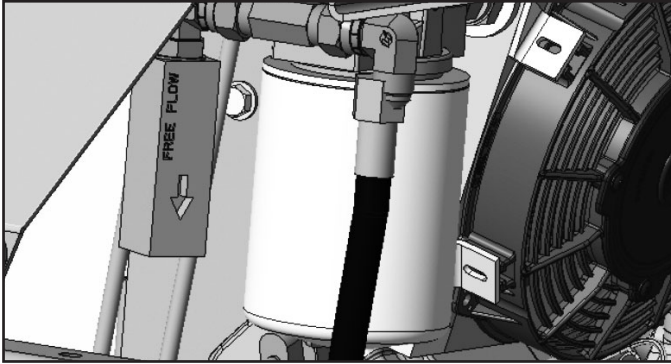

Figure 43: Hydraulic filter location
- 4.** Remove rear tires with a ¾” socket and loosen lower motor hose on each side as shown in **Figure 43** with a 7/8” wrench. Route hose to an appropriate catch pan.
NOTE: Filter must be replaced with same size and type (10 micron) or warranty is void. See **Figure 43**.